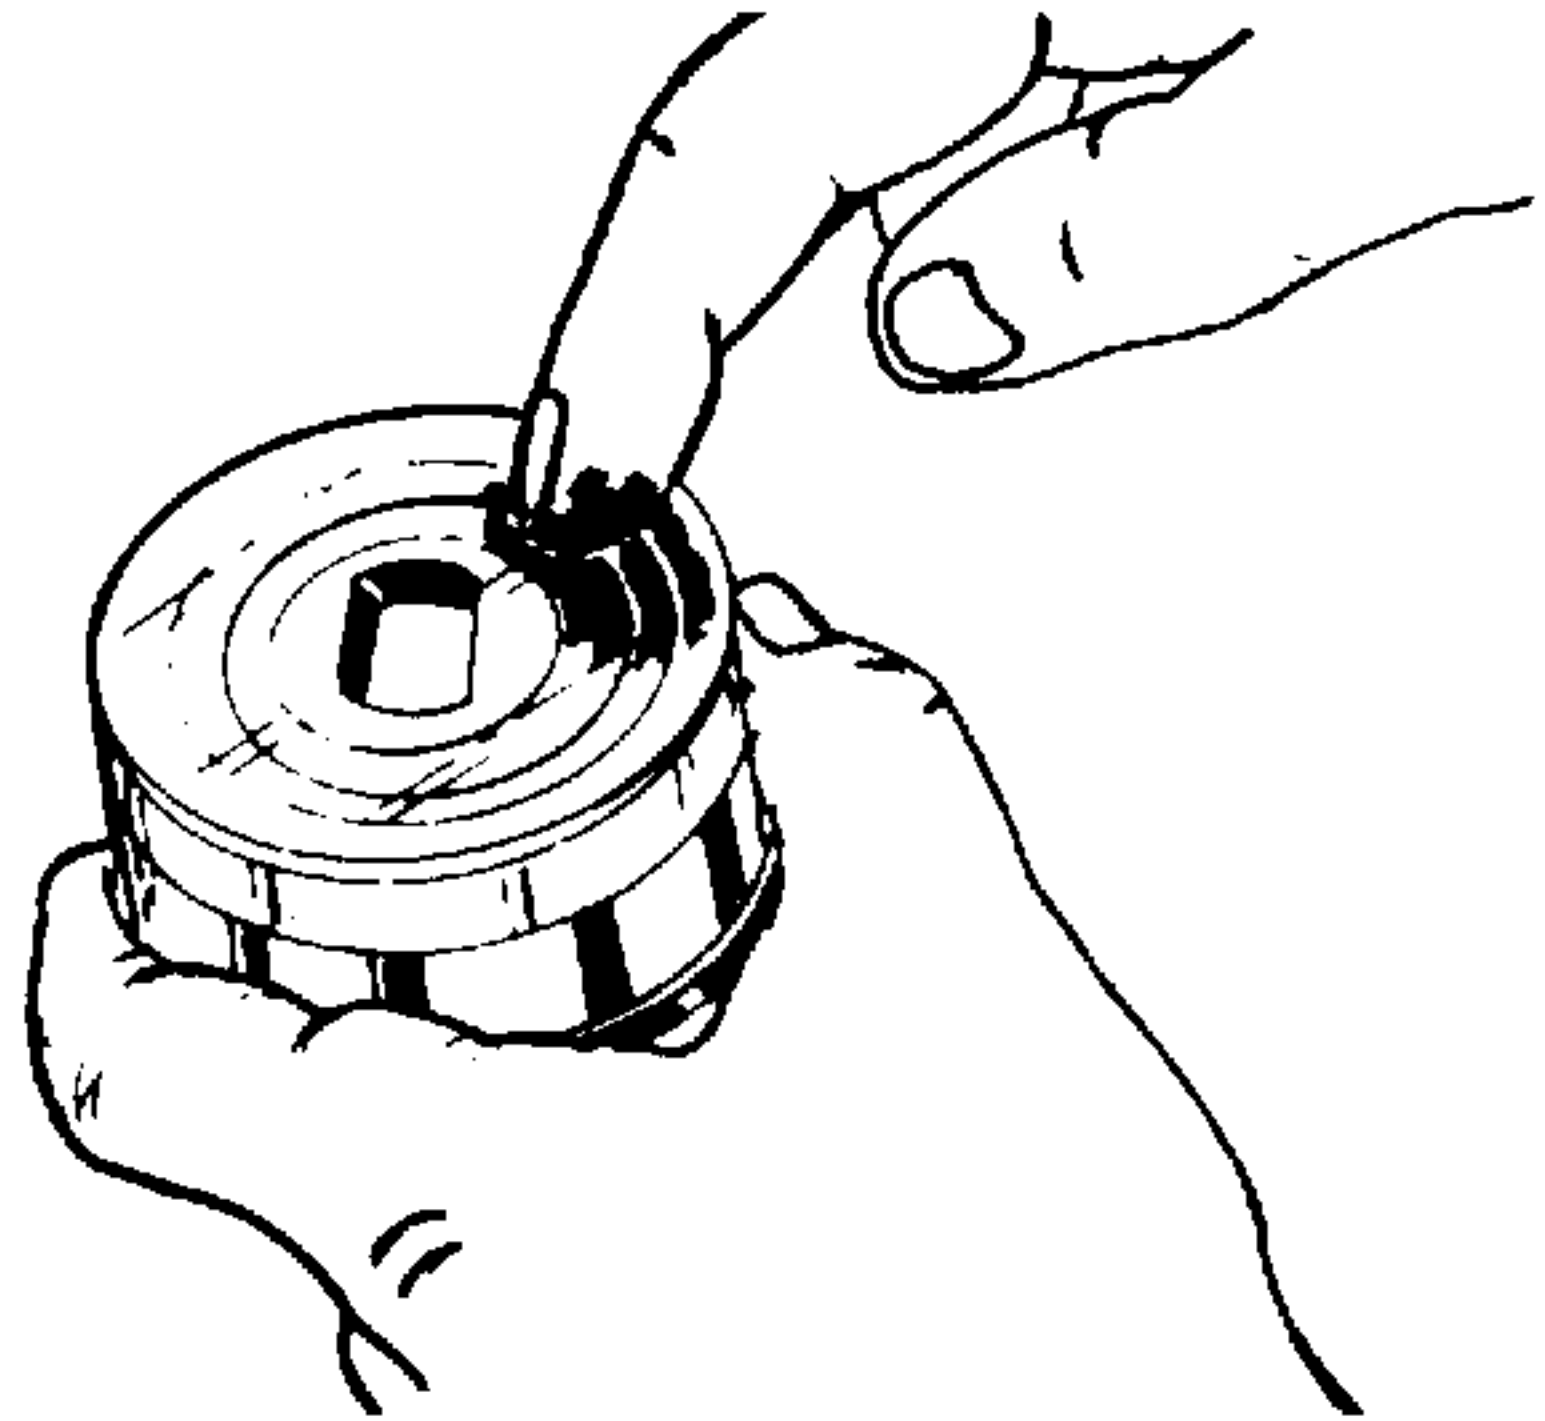

Figure 4-72. Installing Metering Package.
25. Inspect the exposed face of the drive plate (24, Figure 4-1) making sure it is clean and lint free. Apply a small amount of clean grease on the drive plate. Place the metering package, drive plate side first, into the metering ring (39). Revolve the input shaft (31) or metering package until the hole in the drive plate (24) engages the end of the input shaft and drive plate (24) is seated on the thrust bearing (26). When properly seated, the metering package will be below the surface of the metering ring (39). See Figures 4-72 and 4-73.